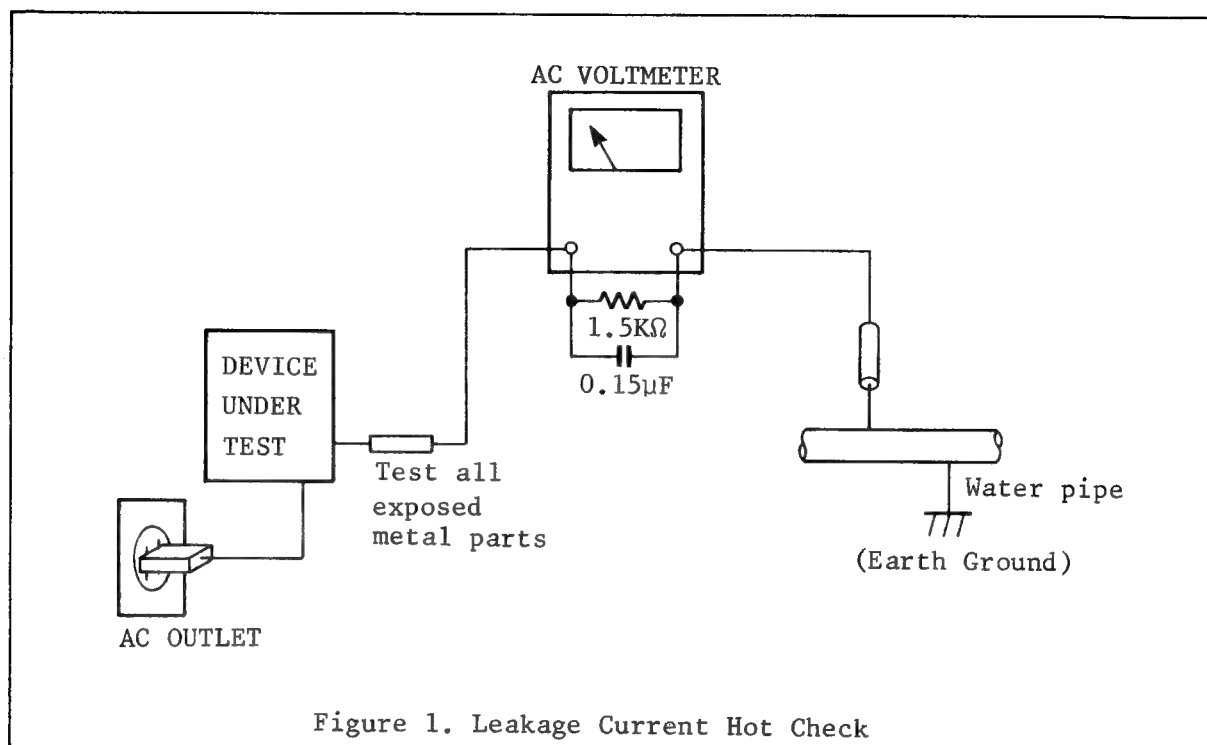

Figure 1. Leakage Current Hot Check
2. Connect a  $1.5K\Omega$  10 watt resistor, paralleled by  $0.15\mu F$  capacitor, between each exposed metallic part on the unit and a good earth ground such as a water pipe, as shown in figure 1.